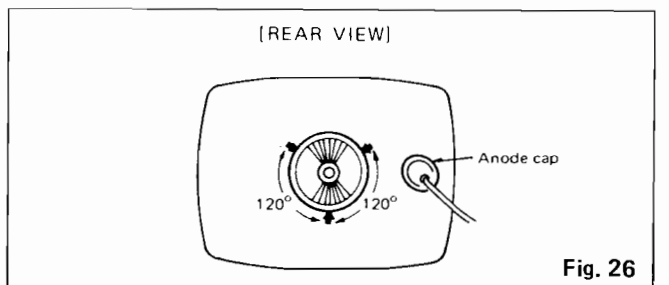

Fig. 26
9. Insert three wedges to the position as shown in Fig. 26 to obtain the best circumference convergence.